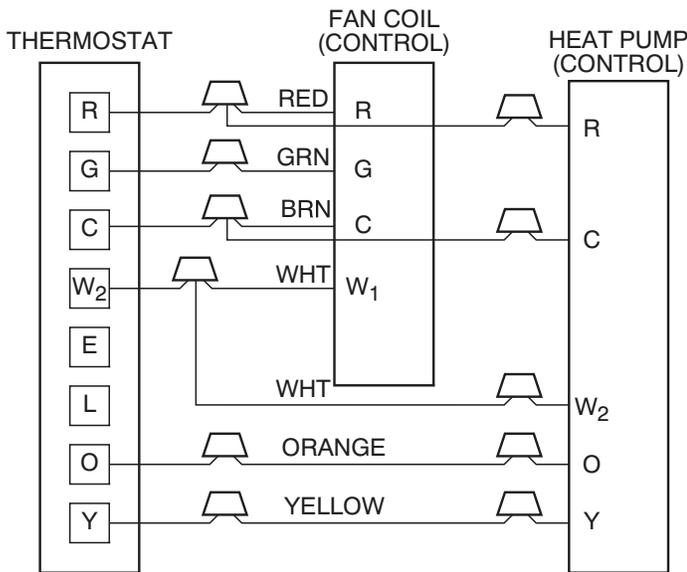

Fig. 7 – Wiring Layout Heat Pump Unit (Cooling and 2-Stage Heat)
See Fig. 6 and Fig. 7 for field low-voltage wiring. See Fig. 2 for location of the electrical inlets. For maximum ampacity and over-current protection, see unit rating plate or product data sheet.
- 5. Connect low-voltage leads to thermostat and outdoor unit. See Fig. 6 and Fig. 7 as well as the outdoor unit wiring label.